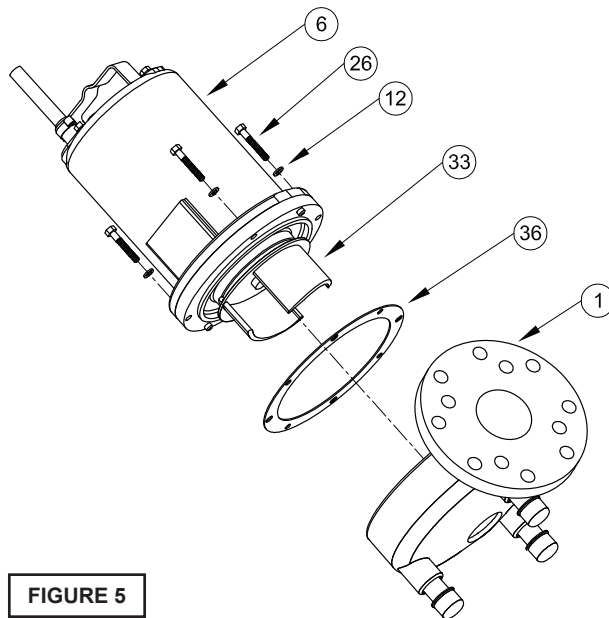

FIGURE 5
Outer Seal (All Units) - To expose shaft seal (28) for examination, disassemble volute and impeller as outlined in paragraph F-2.1. If further repair is required, remove retaining ring (28d), spring (28c) and rotating member (28b) from shaft (see Figures 5 & 6). Examine all seal parts and especially contact faces. Inspect seal for signs of wear such as uneven wear pattern on stationary members, chips and scratches on either seal face. **DO NOT** interchange seal components, replace the entire shaft seal (28). If replacing seal, remove stationary (28a) by prying out with flat screwdriver.